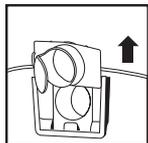

FIGURE 31
37. Remove the inlet deflector from the deflector guide. **NOTE:** Hose must be removed before the inlet deflector can be taken out. **FIGURE 31.**